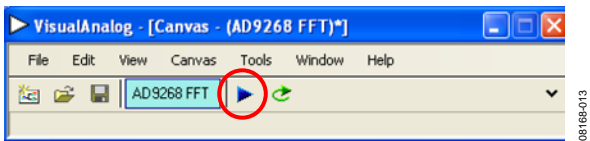

Figure 14. Run Button (Encircled in Red) in VisualAnalog Toolbar, Collapsed Display
- Click the **Run** button in the **VisualAnalog** toolbar (see Figure 14).